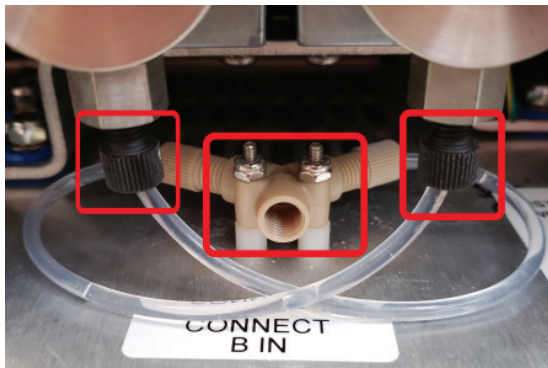

Figure 14: Pump inlet Y-connector
1. Using a 1/4" open end wrench or ratchet, remove the 4 nuts securing the two Y-connectors below each set of pumps on the replacement pump assembly (Figure 14)
2. Disconnect the fitting on the bottom side of each of the four pump heads (Figure 14)